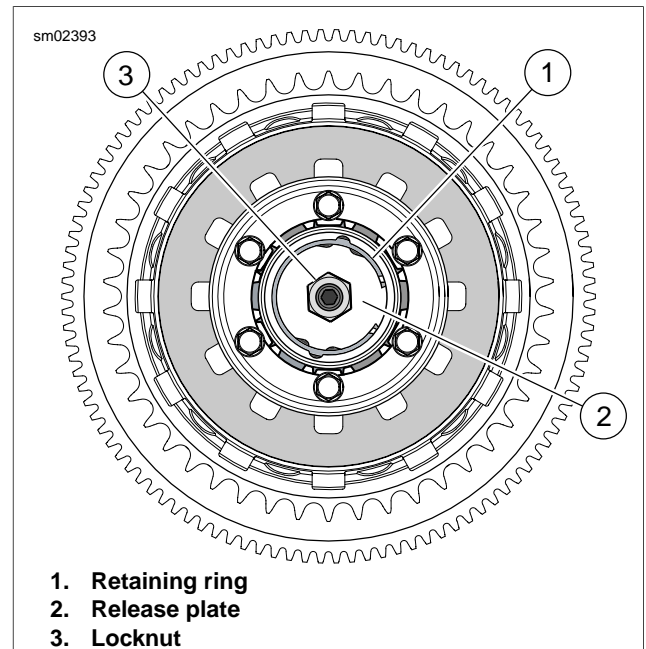

Figure 6-5. Clutch
4. See Figure 6-5. Loosen locknut (3).
5. Remove retaining ring (1) and release plate (2).